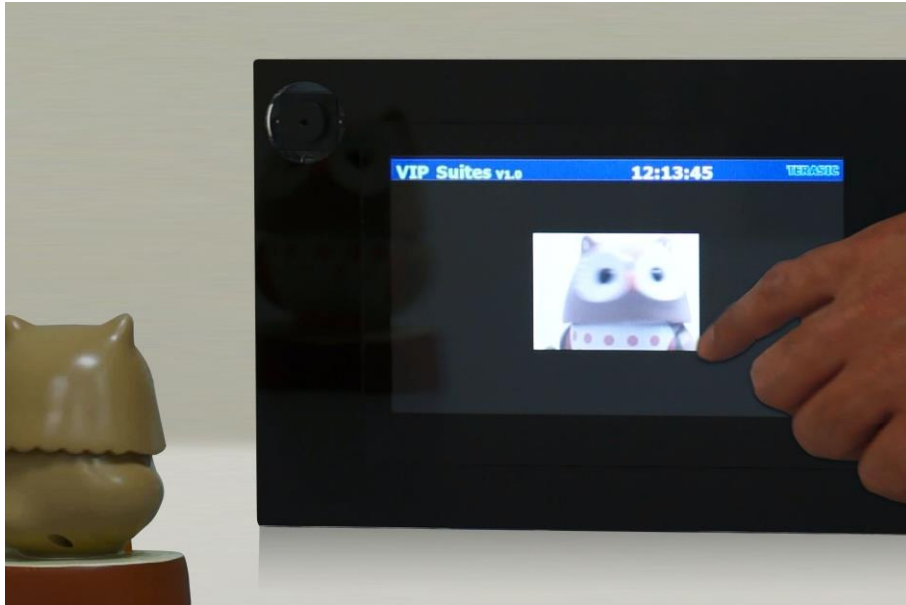

Figure 4-11 Screenshot of the VIP camera demonstration
- In the touch-screen, press and drag the video frame box will result in scaling the playing window to any size, as shown in **Figure 4-11**.